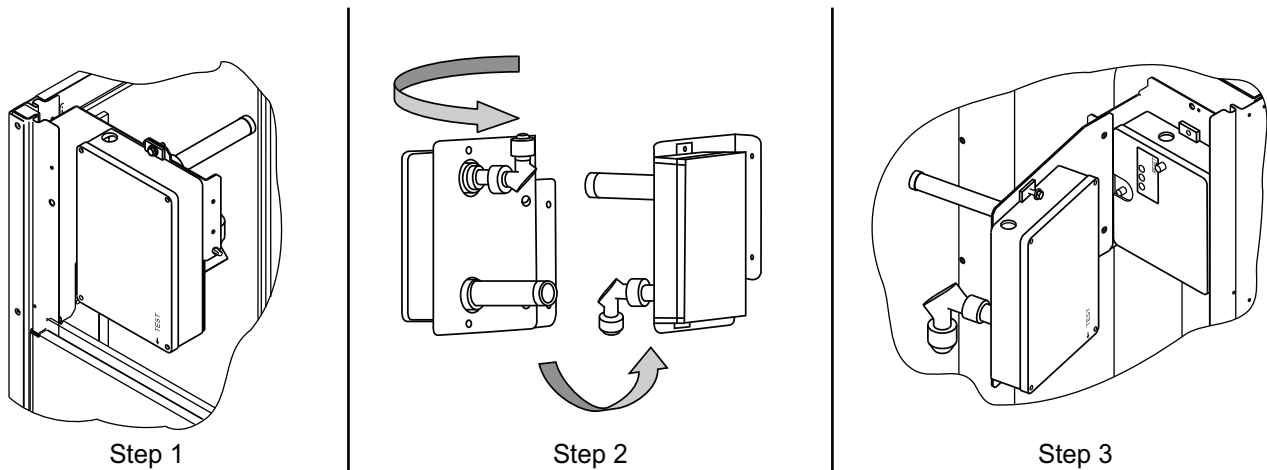

Fig. 55 — Completing Installation of Return Air Smoke Sensor
1. Unscrew the two screws holding the return-air smoke detector assembly. See Fig. 55, Step 1.
3. Turn the assembly 90 degrees and then rotate end to end. Make sure that the elbow fitting is pointing down. See Fig. 55, Step 2.
4. Screw the sensor and detector plate into its operating position using screws from Step 1. See Fig. 55, Step 3.